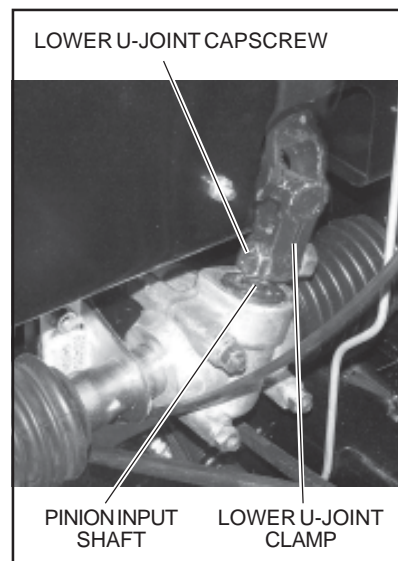

Figure 5
7. Unscrew the tie rod ends (Figure 5) while counting each revolution of the tie rod end. Note the total number of revolutions required to remove the tie rod end from the rack.
8. Remove the hex head capscrew (Figure 5), nut, and lock washer securing the lower steering shaft U-joint to the rack and pinion assembly.